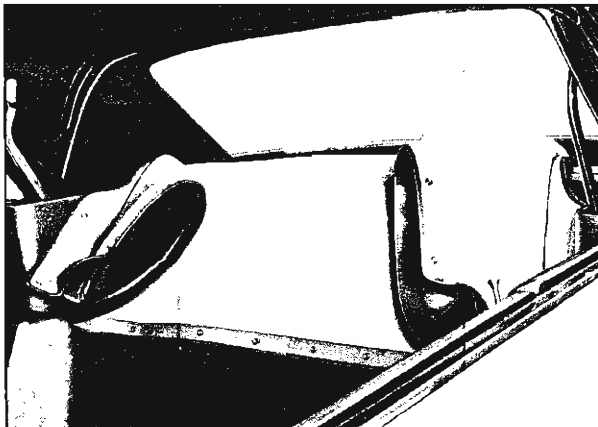

Fig. 21-2 Top Boot Turned Over Seat Back
1. Stop the car. If top boot has been stored in its retainer behind rear seat, turn boot over seat back (Fig. 21-2). It is not necessary to lower rear window or rear quarter windows before lowering top.
1. Stop the car. Disengage all top boot snap fasteners from studs, turn boot over seat back and fold ends of boot toward center. If thoroughly dry, top boot may be removed from retainer, folded and placed in protective case (Fig. 21-2).